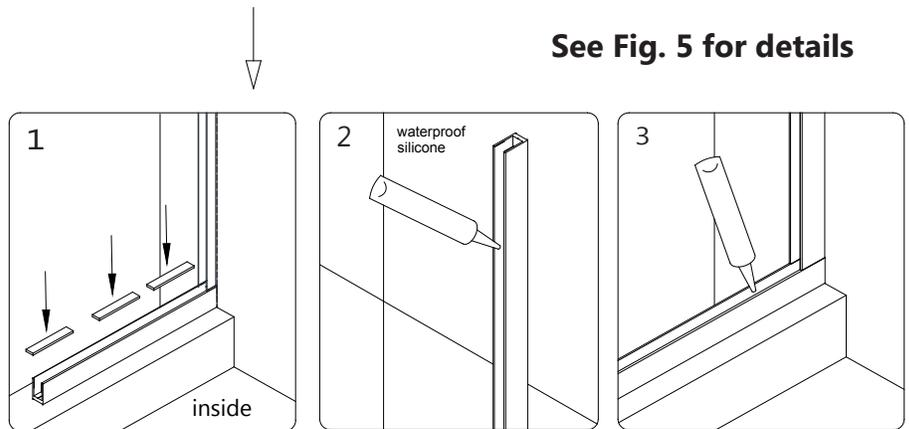

Fig 5
- Add the **Adjustment spacers (#34)** from step#2 into to the bottom u-channel (Fig 5)
See Fig. 5 for details